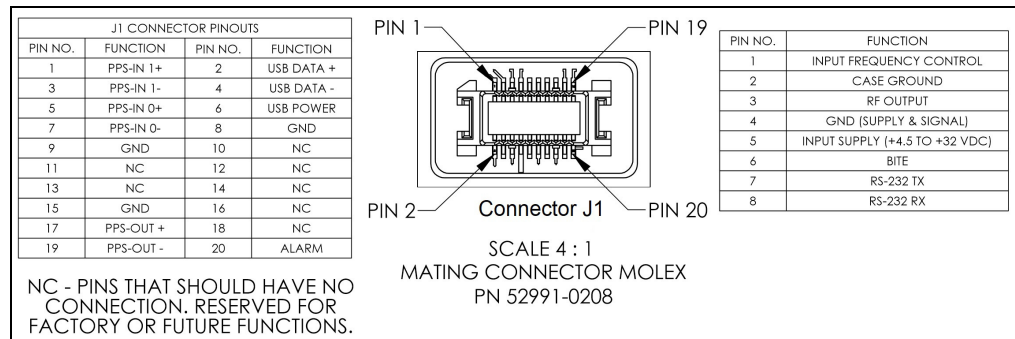

FIGURE 1-3: Pinout.
The MAC is not equipped with a power switch. DC power is applied on pin 5 with ground pins located on pins 2 and 4. If the J1 connector is used, pins J1-8, J1-9, and J1-15 should be grounded. Remaining pins should remain as "No Connect" (NC) unless indicated otherwise in Figure 1-3. If J1 connector is unused, all pins should remain as "No Connect".